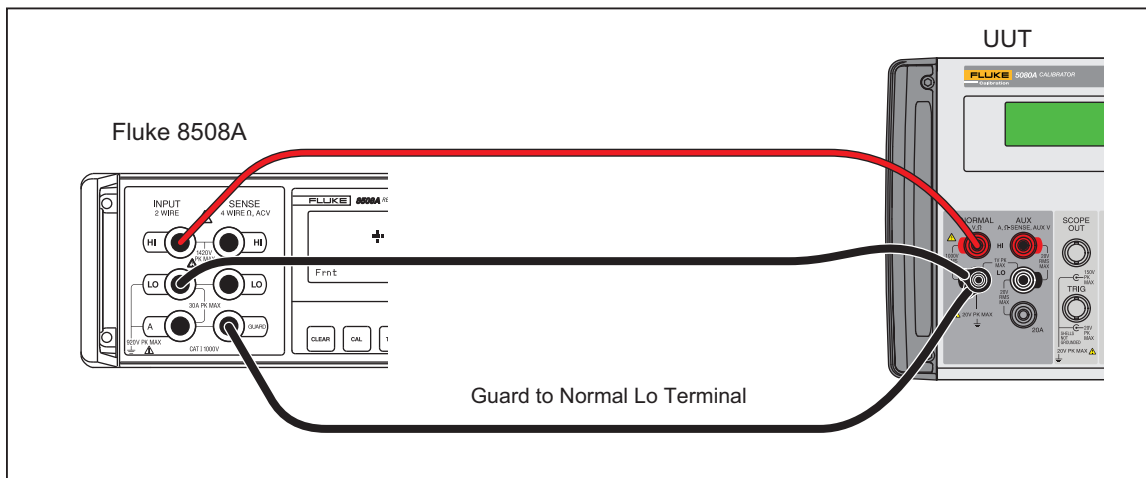

Figure 13. Connections for Calibrating 2-Wire Resistance
6. Connect the UUT to the DMM in a 2-wire ohms configuration as shown in Figure 13.